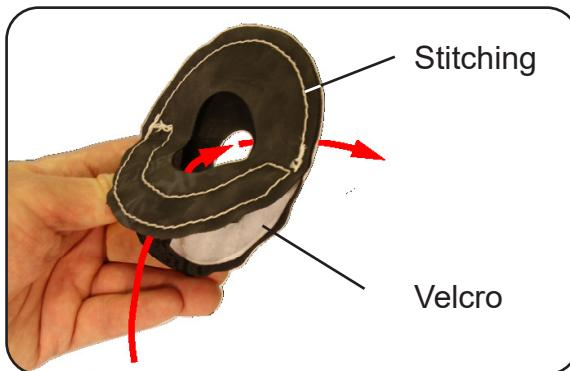

FIGURE 808B
NOTE: The lamp mounting patch for the external lamp has a top and bottom fabric. These are connected by stitching on one half and by velcro on the other half. Refer to FIGURE 808B.
- (d) Insert the plug and cable between the top and bottom fabric. Refer to FIGURE 808B. Pull the plug through the hole in the bottom ring.